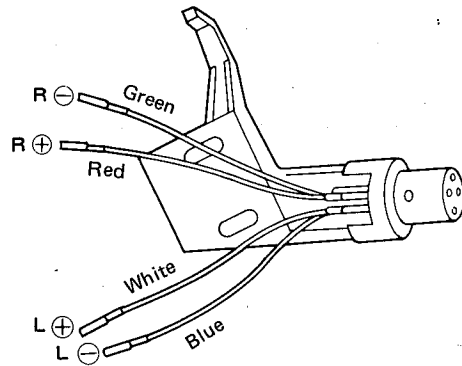

Figure 3
- (1) Attach the Cartridge to the Headshell with screws.
- (2) The polarities and L/R channels wirings are shown in Figure 3.
- (3) Make connections to the Cartridge following instructions provided with the Cartridge.